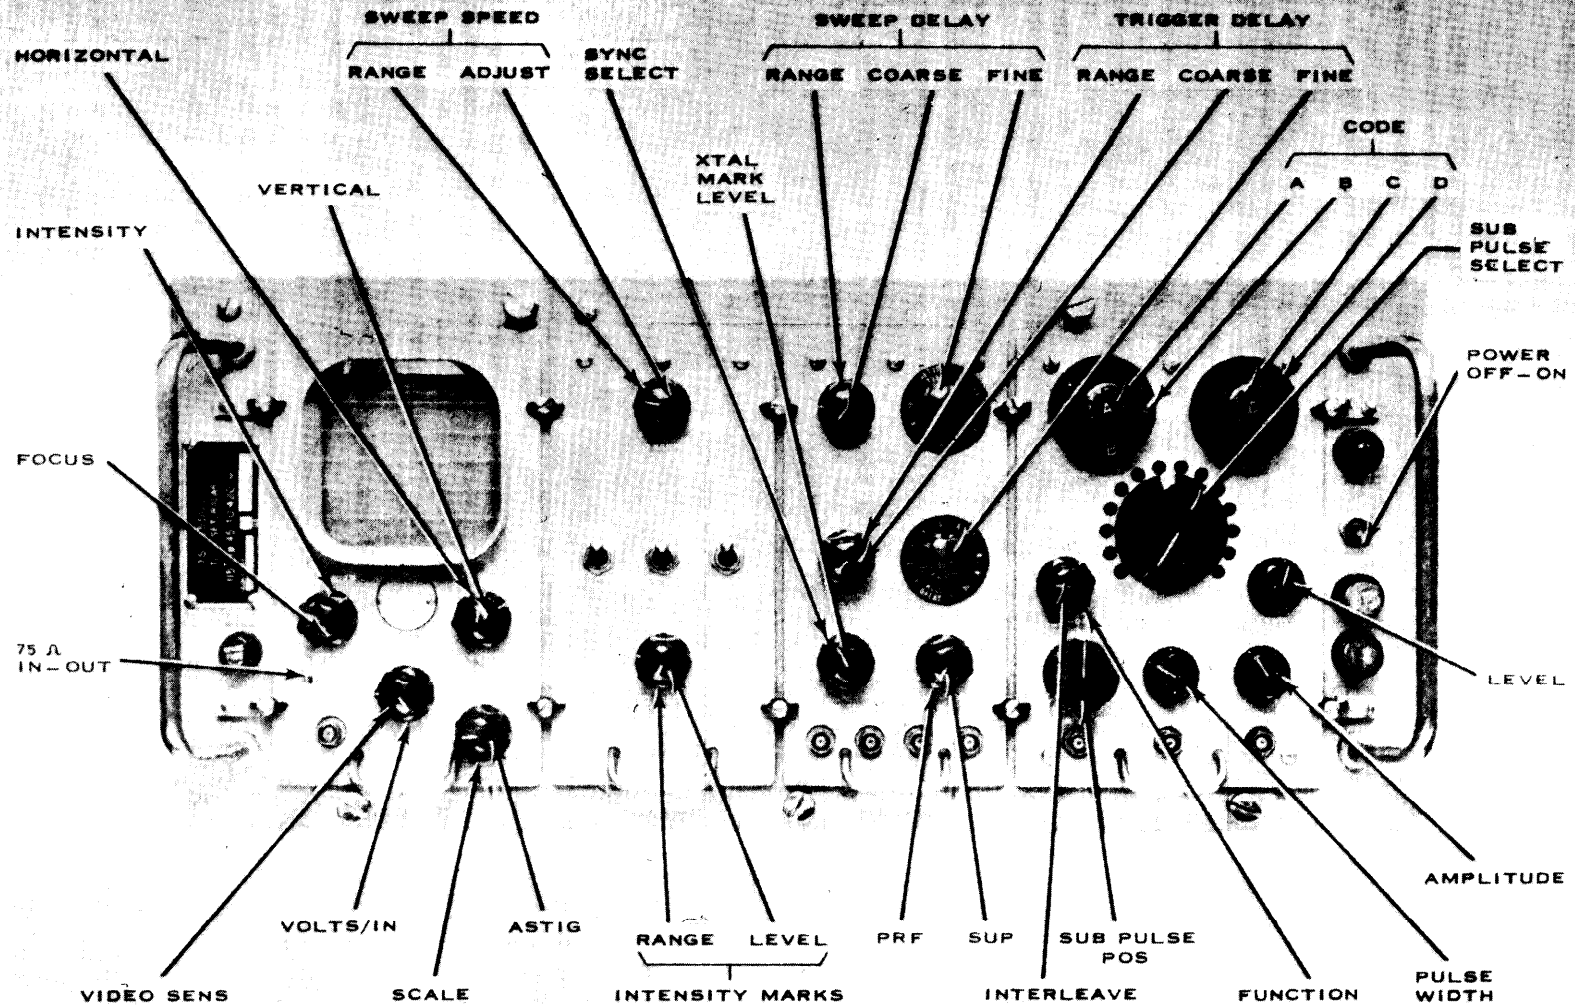

Figure 3-1. Radar Test Set TS-1253A/UP, Front Panel Control
b. RADAR TEST SET TS-1253A/UP. This unit combines the functions of a precision oscilloscope and an SIF code pulse generator. Figure 3-1 is a front view of the TS-1253A/UP unit showing all the operating controls.
(1) OSCILLOSCOPE. The oscilloscope circuitry is contained in the Display, Sweep and Intensity Mark, and Crystal Mark and Sync plug-in units. The video pulses to be displayed are applied through a coaxial cable or the Test Lead MX-2681/UP (furnished with the equipment) to the VIDEO connector on the Display unit front panel. The video input line can be internally terminated in a 75-ohm impedance by placing the 75 switch in the IN position.